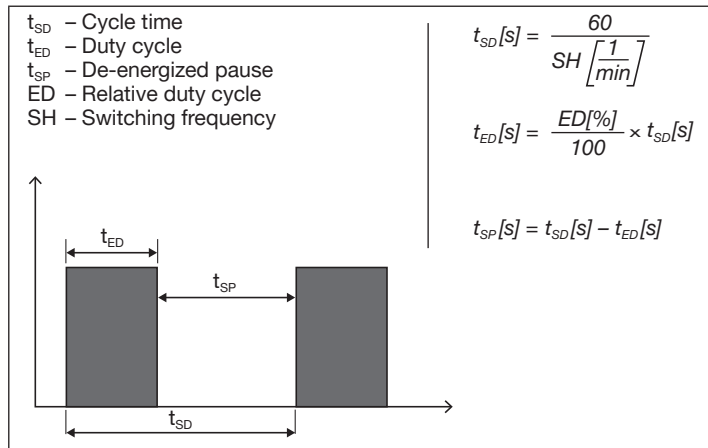

Fig. 3: Characteristic values intermittent operation for version with high-performance electronics AC/DC
- Observe direction of flow (see “Fig. 3”).